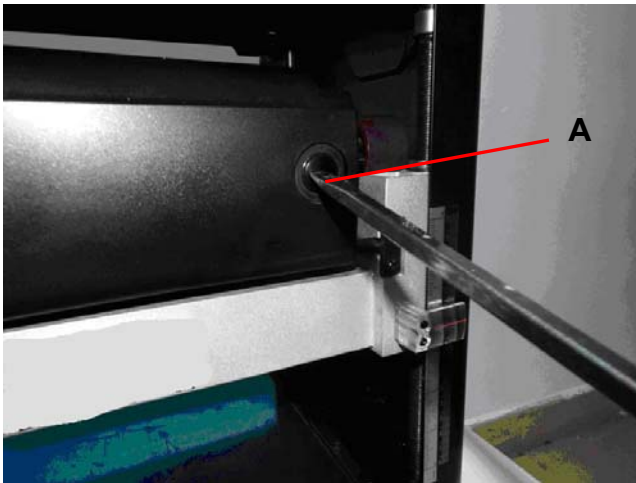

FIG 15
1. Remove the brush holders, one of which is shown at (A). The other is located in the same position on the rear of the motor assembly. The Brush Holder can be removed using a flat blade screwdriver. SEE FIG. 15.